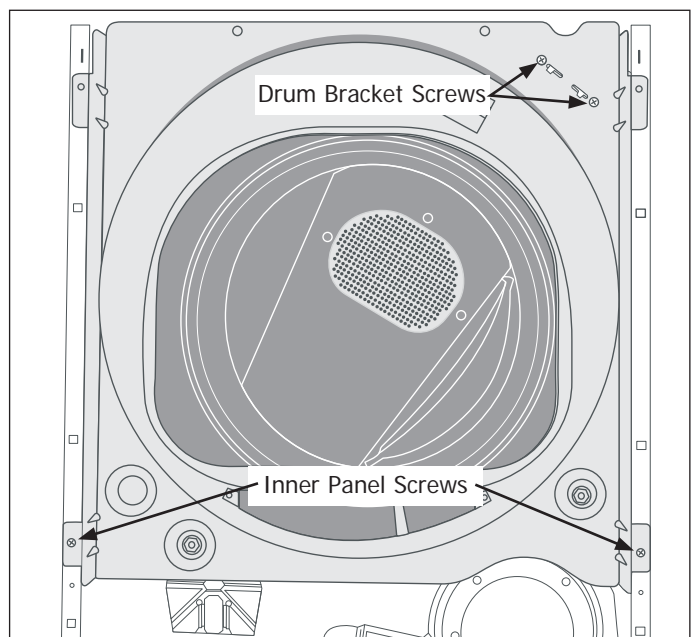

Figure 4-27.
2. From both ends of the bracket, use a #2 square bit screwdriver and extract the four screws securing the bracket to the inner front and inner rear panels. (See Figure 4-27)
2. Using a #2 square bit screwdriver, extract the two screws securing the inner front panel to unit frame. (See Figure 4-27)